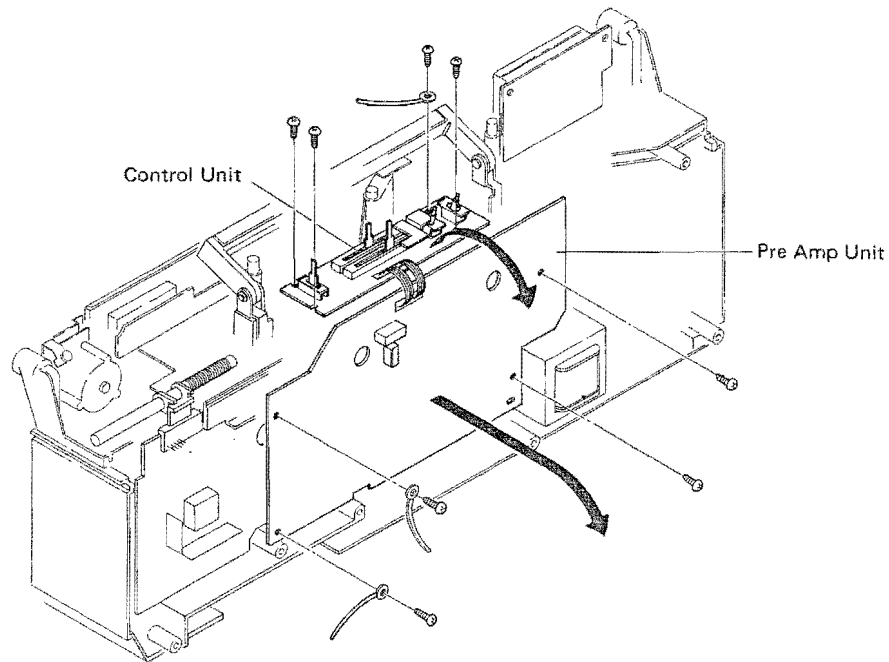

Fig. 37
1. Remove the four screws holding the control unit (Fig. 37).
2. Remove the four screws holding the pre-amplifier unit (Fig. 37).
3. Disconnect the connectors and remove each unit as indicated by the arrows (Fig. 37).